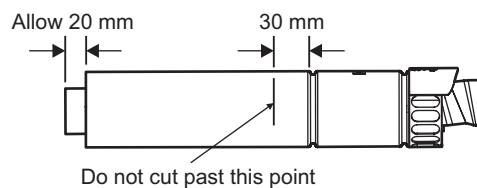

Fig. 5.12
5.8 REDUCING THE FLUE - Fig. 5.12
When the flue length required is less than the minimum stated in Section 4.6, paragraph 1, refer to Fig. 5.12.